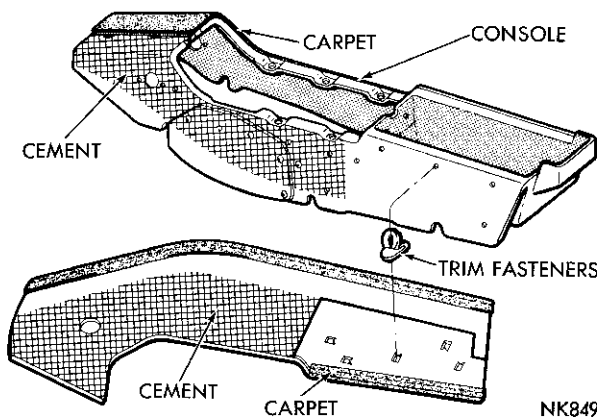
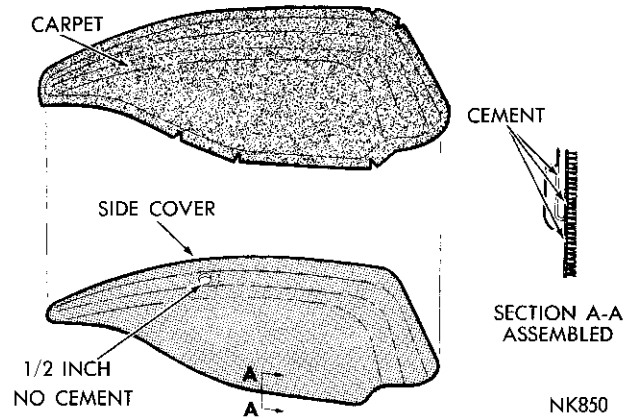

Fig. 26—Console Trim Carpets
Fig. 27—Console Side Trim Carpet
- (3) Lift the sides of the floor tunnel carpets, on the console (Fig. 26) to expose the slots in the body of the console.
- (4) Loosen the screws, six used for automatic transmissions and five manual transmission consoles.
- (5) Lift the console off the screws and disconnect the backup lights, tachometer and body wires from their connectors.
- (6) Guide the console over the transmission shift lever.
The carpet assemblies are attached to the console by trim fasteners and cement (Fig. 26). The carpet on
the console side cover (Fig. 27) is preformed. Apply cement to both the inside of the cover carpet and to the mating surface of the cover. Cement should only be applied to the unsupported portions of the console carpets and to the mating surfaces of the console (Fig. 26).